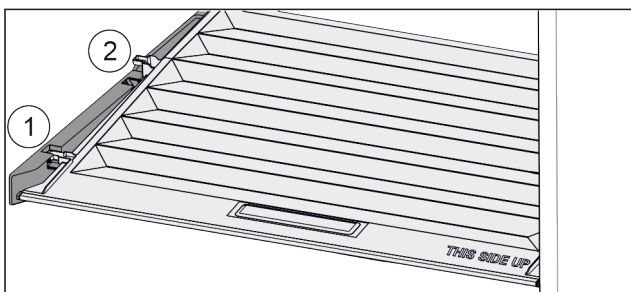

Fig. 44
- ▶ Pull the lid up at the front in the retaining parts to the opening *Fig. 44 (1)*.
- ▶ Lift from the back and pull it up and out *Fig. 44 (2)*.